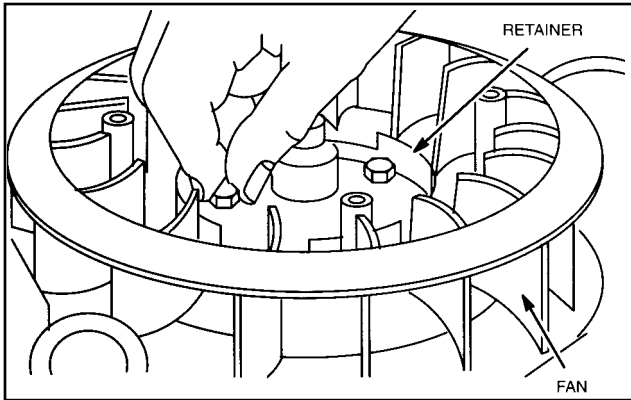

Fig. 7 - Installing Flywheel And Fan
3. Assemble fan and retainer to flywheel, Fig. 7.